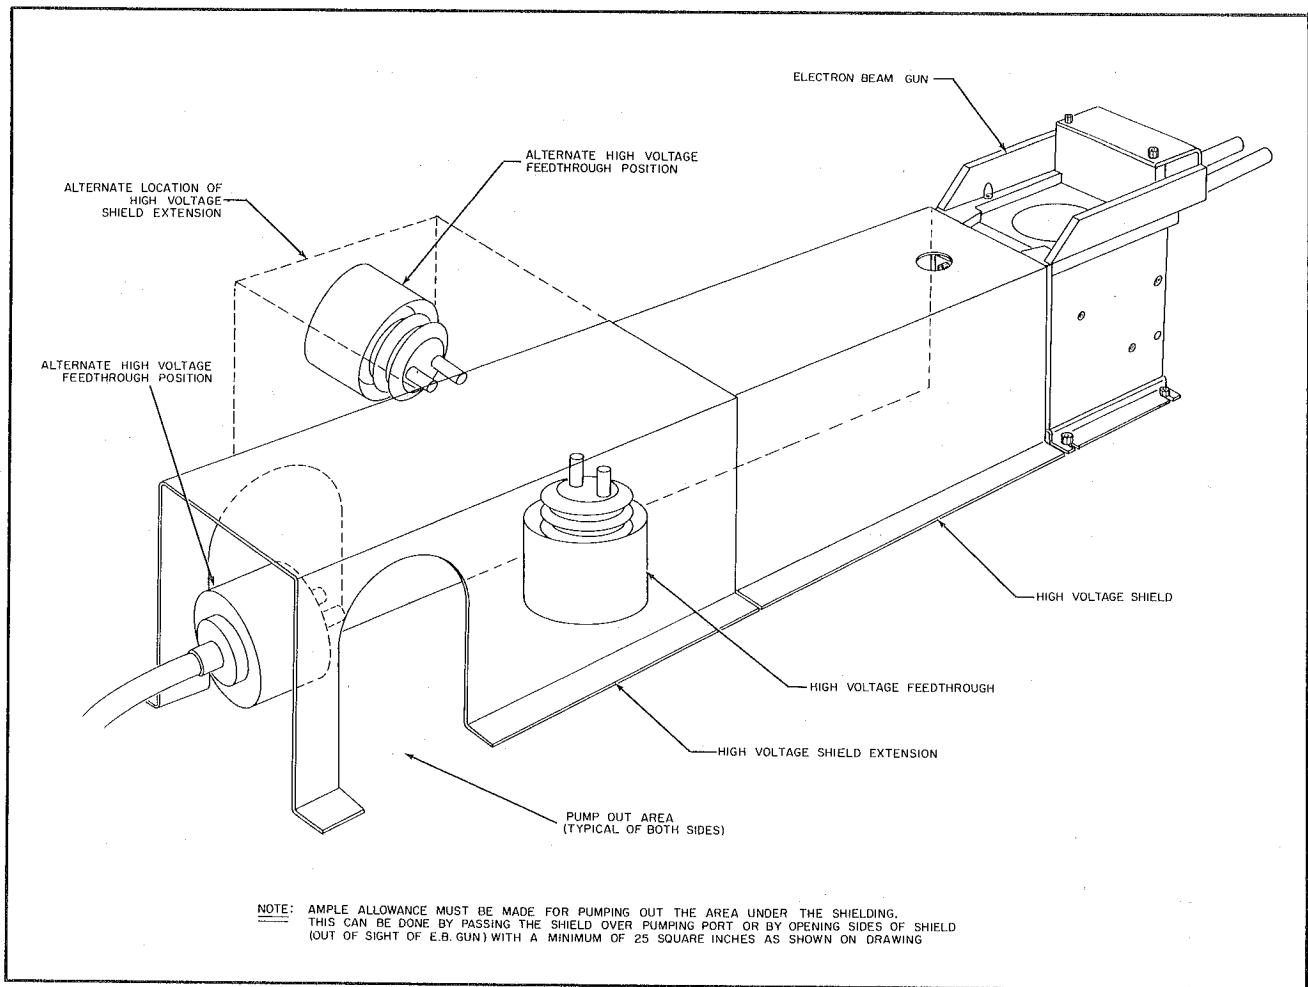

Figure 2-4. Typical Installation of High Voltage Shielding.
- (9) Install grounded shields over the entire length of both the high-voltage leads and around the high-voltage feedthrough to protect them from ions generated by the electron beam. Shielding should be installed in such a way that it can be removed without disturbing either the gun or other shielding, to facilitate maintenance. Figure 2-4 is a guide to proper shield installation. Shields may be formed from any non-magnetic metal compatible with the system. Stainless steel is recommended.
Ample allowance must be made for pumping out the area under the shielding. This can be done by constructing the shielding over the pumping port or by providing an opening on both sides of the shielding, out of sight of the electron beam gun, with a minimum area of 25 square inches (160 cm2) as shown in Figure 2-4.